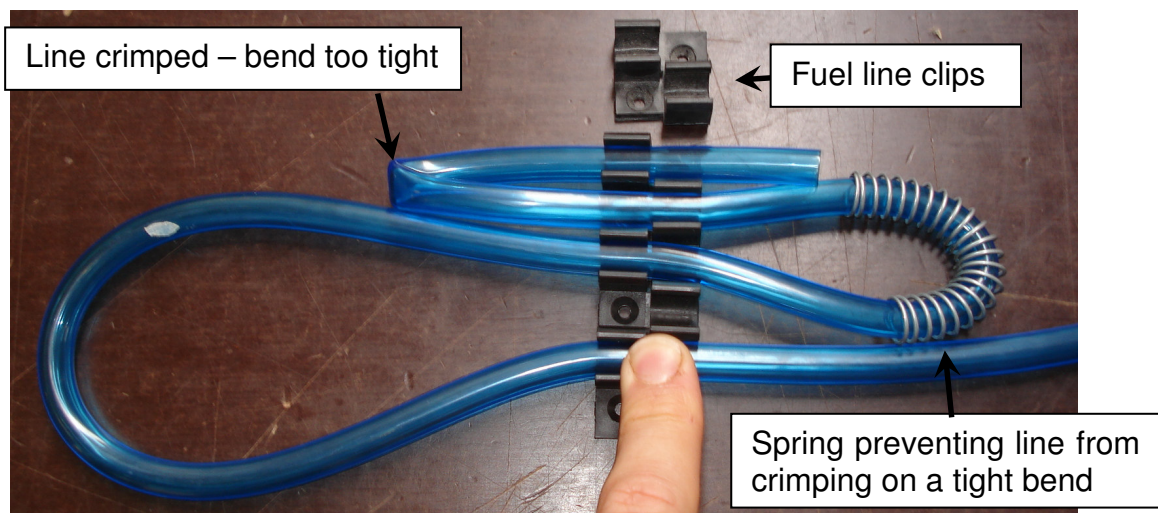

Figure 2 – Sample Fuel Line Details
- Care must be taken when re-routing lines to avoid bending the hose around too sharp a corner – the flexible hose used can crimp itself off if bent too sharply. If a sharp bend is unavoidable a spring may be threaded over the line to prevent it crimping. Springs must be a snug fit on the hose & are available from Jabiru Aircraft if required. Figure 2 refers.
- If new restraints are added, plastic line clips can be bonded to the aircraft structure. (Figure 2 refers). Fasteners such as screws, which damage the structure, should not be used.